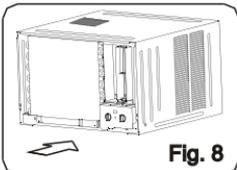

Fig. 8
- Push the unit chassis into the cabinet. (see Fig.8)